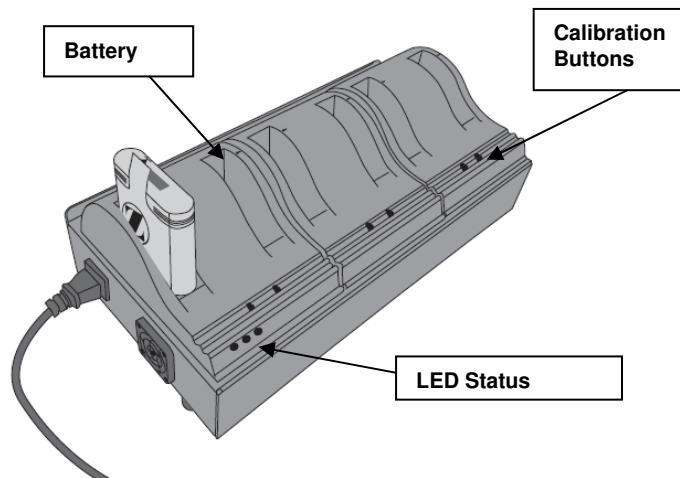

Figure 2: Battery Charger
3. Place the Battery in the Charger bay located on the Battery Charger (see Figure 2).
**NOTES:** The Battery status is determined by the LEDs in the Charger status window. (Figure 2)
2. Press the recalibration button on the front of the Charger (see Figure 2) to begin recalibration of the Battery. If the button is not pressed the Charger will automatically charge the Battery.